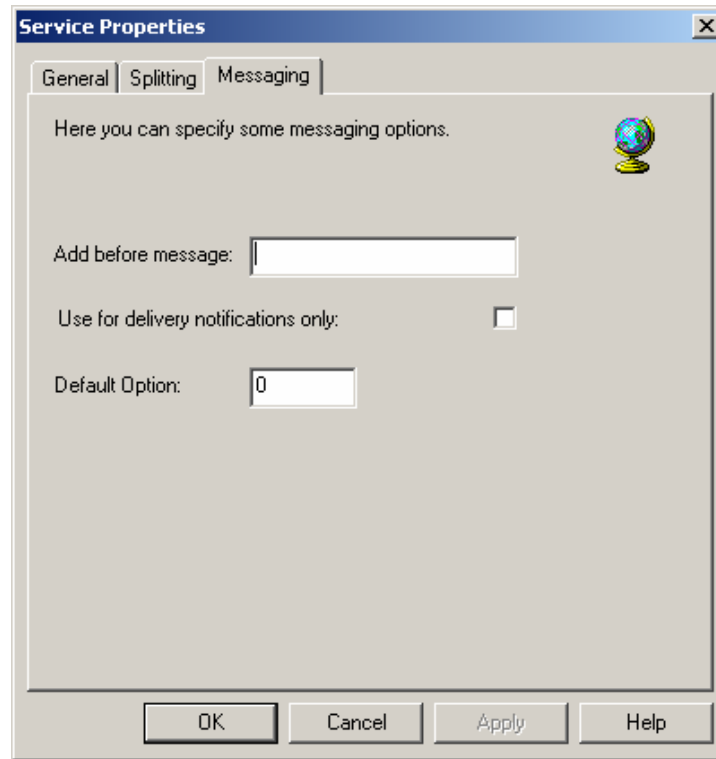

Figure A.17. SMS Service Properties: Messaging Tab
4. On the **Messaging** tab, shown in **Figure A.17**, enter a string to add before the message (if this is necessary for your pager service).